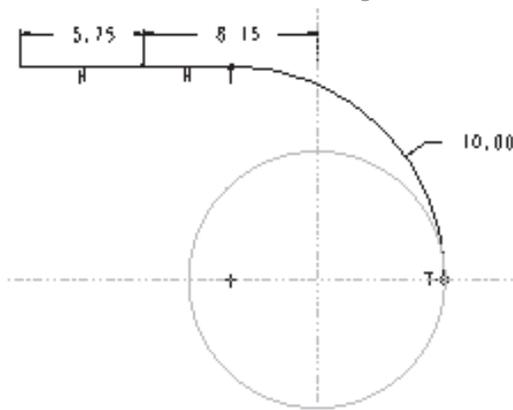

Figure 8-44 Sketch of the origin trajectory
6. Once you enter the sketcher environment, draw the sketch of the trajectory and add constraints and dimensions as shown in Figure 8-44.
As evident from Figure 8-44, the start point of the trajectory is aligned with the **TOP** datum plane and the trajectory is tangent to the curve of the base feature.
8. Choose **Next** from the **CONFIRM SEL** menu to shift the position of the red point. You need to shift the position of the red point because the section of the swept blend feature (SECTION X-X) that is given in Figure 8-44 is at the point where the red point is shifted now. Hence, now you will need to define three sections at three points.